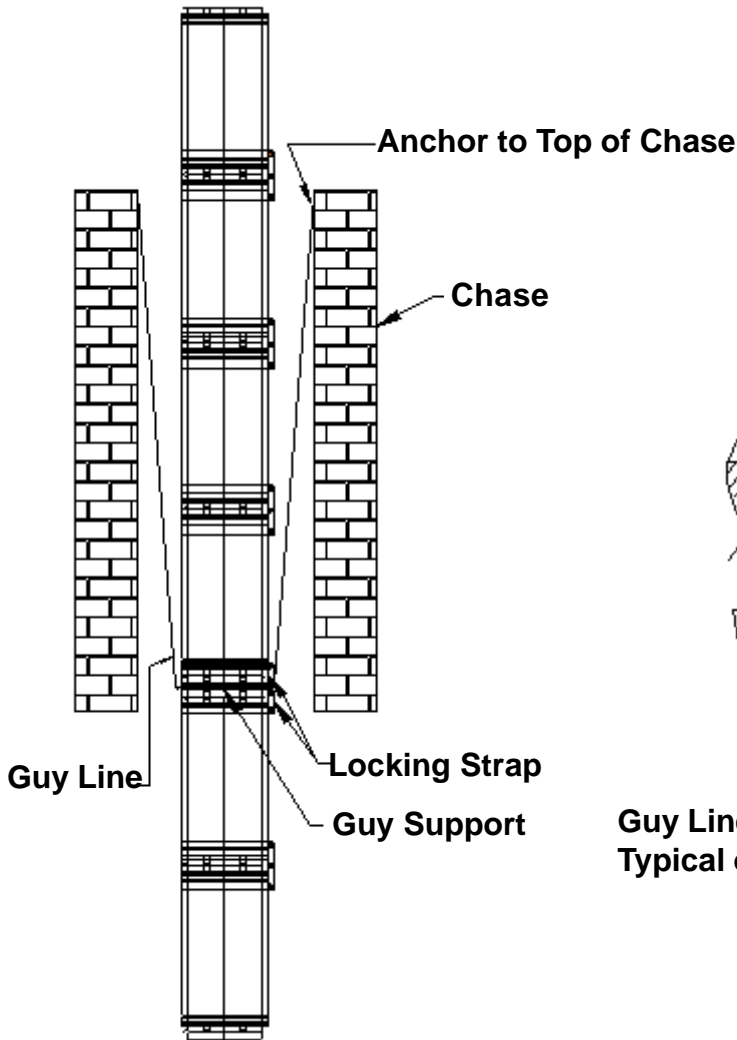

Figure 4
3. Apply a 1/4" bead of RTV sealant to the inside of the female end of the boiler adapter, 3/4" from the edge, *figure 4*. Make a continuous, straight-line bead, not a zig-zag pattern when applying the sealant.
APPLICATION 1. To Lower A Stack (Figure 4).
4. The vent section must protrude at least 2 inches into the screened area beyond the end plate of the Wall Termination Assembly (Figure 4). Attach the screen cover using stainless screws. Align the hole in the top (solid) portion of the screen cover with the top of the assembly and securely screw the two pieces together. The screen cover may be easily removed for inspection of the venting system.